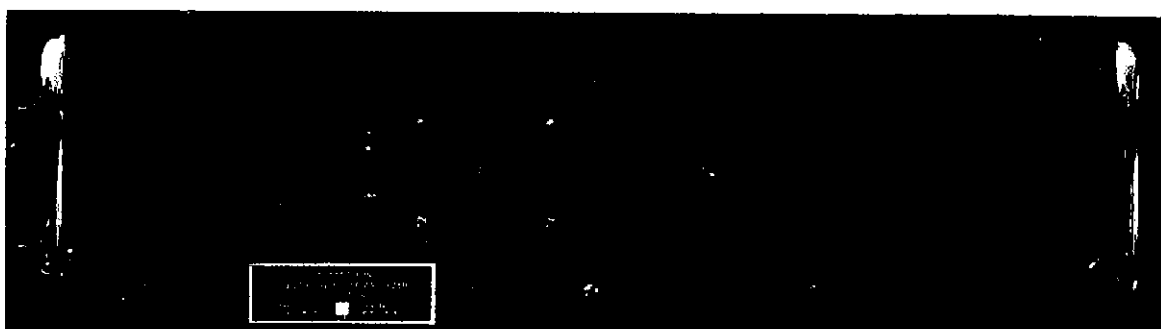

Figure 1.5. 1A3-Electrical Pulse Analyzer (TS-3550/FPN)
1.3.3 Electrical Pulse Analyzer (1A3). The Electrical Pulse Analyzer (Figure 1.5) contains a Gate Control Module W0678-3A/GATCON, an Envelope-to-Cycle-Difference Module W0678-18C/ECD, a Peak Detector Module W0678-4/PK DET, and a Clip Attenuator Module W0678-11A/CLP